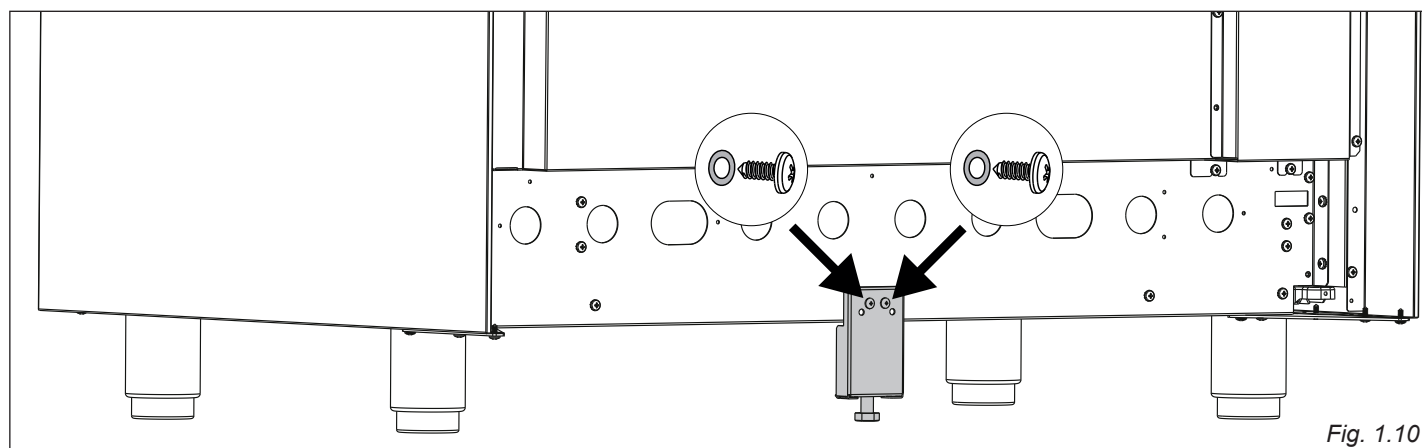

Fig. 1.10
3. Fix the adjustable bracket to the back of the range using the two supplied screws and washers (fig. 1.10).